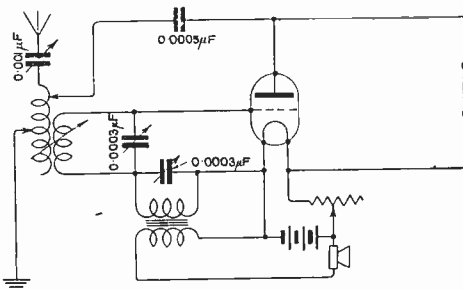

Fig. 3. Simple telephony transmitter. The minus terminal of the H.T. is connected to earth.
**"J.J.H." (Waterford)** asks (1) For a diagram of a low power telephone transmitter. (2) What voltage will a Mansbridge 2 mfd. paper dielectric condenser withstand. (3) How to find the output of a small valve transmitter. (4) What would be the approximate range of a C.W. transmitter using 100 volts H.T., and a telephone transmitter using 100 volts H.T.
(1) A suitable diagram is given in Fig. 3. The aerial coil may be a winding 6" in diameter, of No. 16 D.C.C. About 20 turns will give you a sufficient inductance to enable you to make the correct wavelength adjustments. The wire should be spaced slightly. The reaction coil may be a winding 4" in diameter and 2" long, of No. 22 D.C.C. The transformer connected in the grid circuit is a microphone transformer, with the secondary shunted by a small variable condenser. The condensers used should be able to withstand the high voltages which may be generated. (2) A 2 mfd. Mansbridge condenser will probably safely withstand 100 volts D.C. They will not, however, stand up to a pressure of 100 volts when connected in an oscillating circuit. When purchasing these condensers care should be taken to see that the insulation is good, otherwise the H.T. battery will soon discharge. (3) If a 5-watt transmitting valve is used with the best adjustments you may expect to put about 5 watts high
given in No. (1). (4) We do not recommend the use of plugs and jacks in high frequency circuits. (5) All connections, especially grid connections, should be as short as possible, and we suggest you reduce the distance between the tuner and amplifier. (6) The method of applying different H.T. potentials to the anode of the valves in the amplifier is given on page 601, Fig. 3, February 3rd issue. We would point out that only four questions are permitted.
**"H.A." (Weston-super-Mare)** asks (1) With reference to the article described by Mr. A. J. Bull in the August issue of this journal, is the coil which is shown on the top of the instrument a reaction coil. (2) Will the Post Office permit the use of this receiver.
(1) The coil which is seen on the top of the instrument is not a reaction coil. It is the anode coil, and is used for high frequency amplification. (2) We think you will have no difficulty in obtaining a licence to use this receiver.